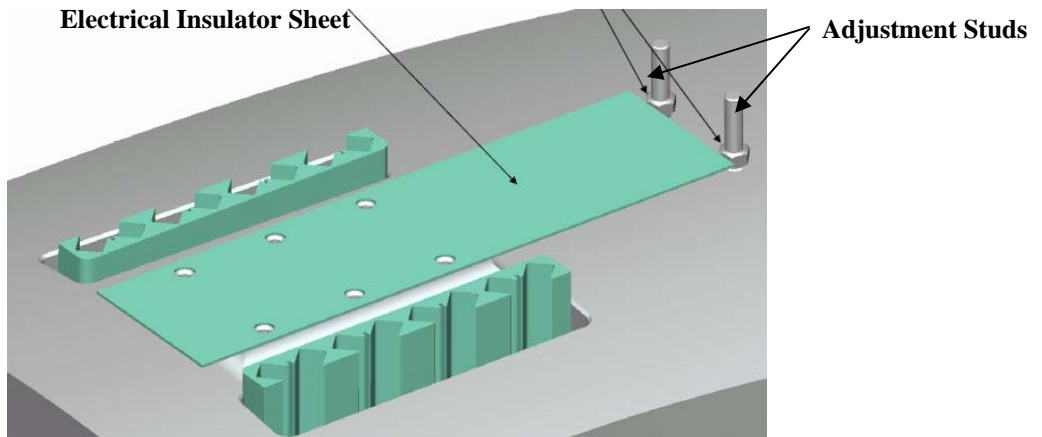

Figure 18- Electrical Insulator and Adjustment Studs
- Using the G-11CR mounting base locate the position of the (2) 3/8-16 studs. [Figure 18- Electrical Insulator and Adjustment Studs [Note: **The type A & B base plates are identical, Type B is not. See NCSX drawings for appropriate base plate.**
- TIG weld the (2) 3/8-16 studs to the winding form.
- Install the electrical insulator sheet and height adjustment nuts onto the studs just welded. [Figure 18- Electrical Insulator and Adjustment Studs]